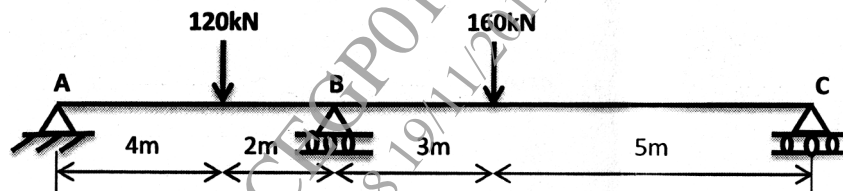

Fig. 3
2. (a) Using Clapreyon's three moment theorem analyse the continuous beam ABC supported and loaded as shown in Fig. 3. [6]